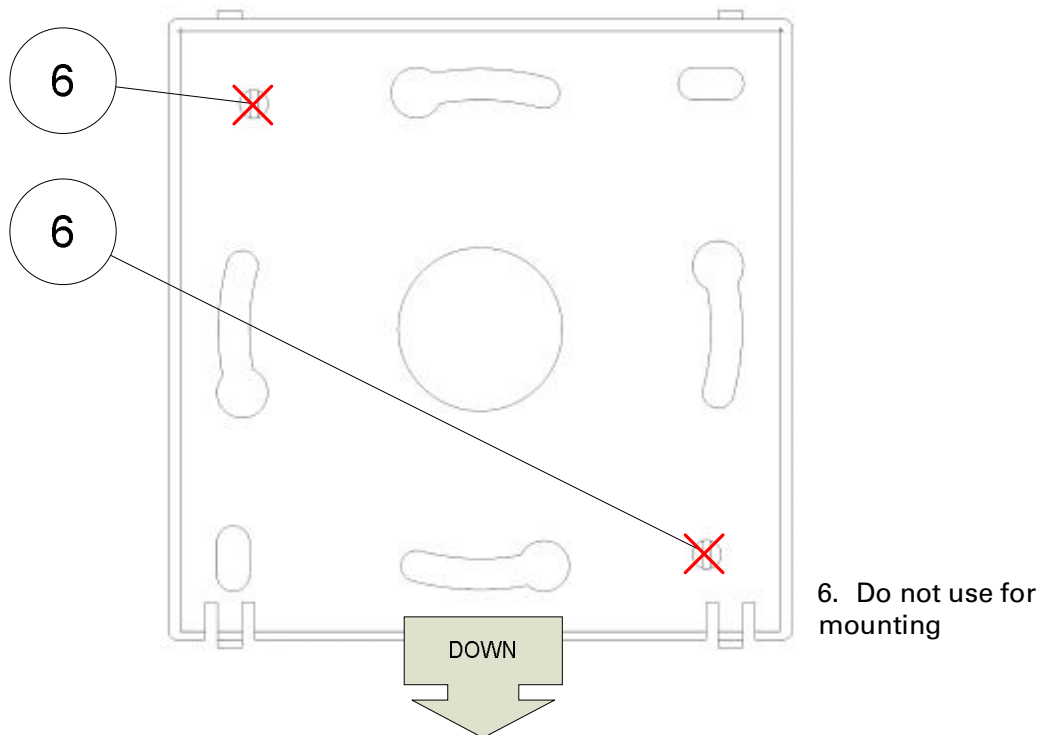

Figure 3 Rear cover
- Do not use mounting holes (6) as in Figure 3.
- Turn the rear cover as shown in Figure 3.